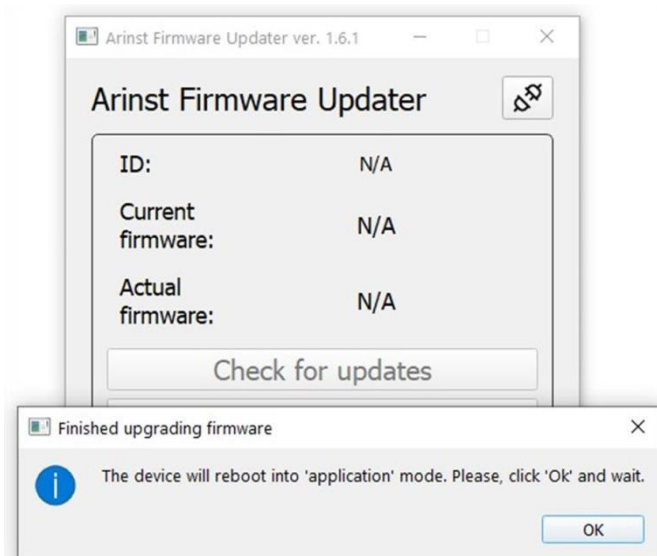

Figure A2.10 – Message from the loader about switching the device into application mode
**Note** – When you finish downloading firmware updates, the device will automatically restart and go into application mode. A corresponding boot message will be displayed on the PC screen (Figure A2.10).